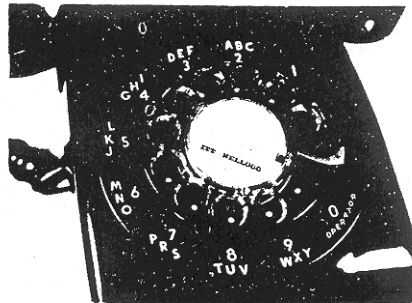

Fig. 3-3 REPLACING LUCITE FINGER PLATE
i: Fit the number card (13), if required, in the finger plate (14), matching the notch in the card with the tab inside the recess of the finger plate, then replace the finger plate, see Fig. 3-3.